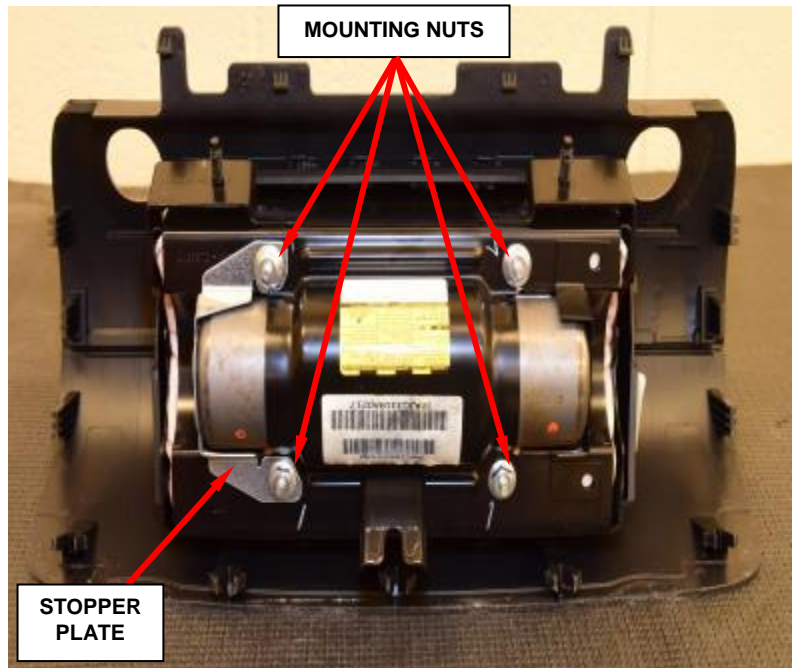

Figure 139 – Mounting Nuts
b. Remove and **discard** the four mounting nuts from the passenger airbag module (Figure 139).
- f. Install the stopper plate to the airbag module (Figure 139).
- g. Install the four new mounting nuts to the airbag module and tighten to 62 in. lbs. (7 N·m) (Figure 139).